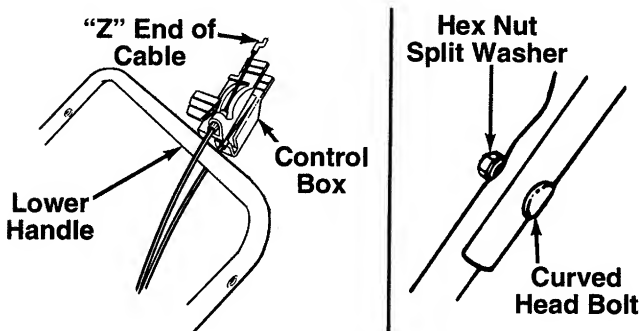

FIGURE 2.
1. Slide the control box over the lower handle so that the cable with the "Z" end is routed above the lower handle, and the other cable is routed below. See figure 2.
3. Secure the upper handle using the curved head bolts, split washers and hex nuts as shown in figure 2. Tighten securely.